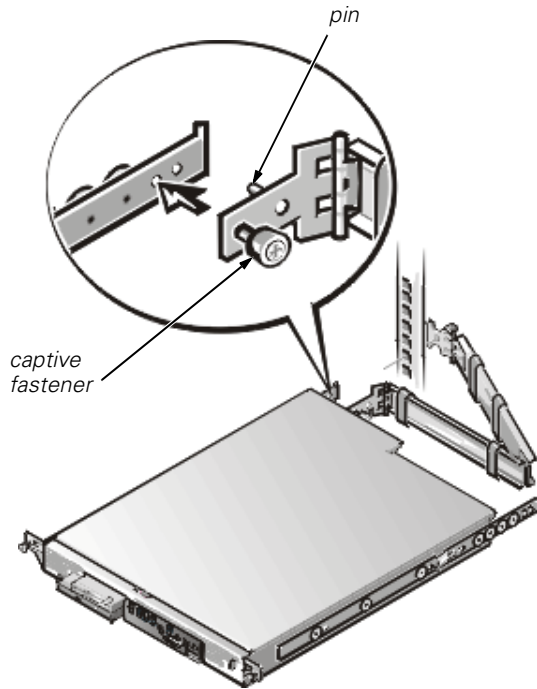

Figure 1-20. Installing the Cable-Management Arm
1. Facing the back of the rack cabinet, locate the threaded hole on the back of the slide assembly and secure the end of the cable-management arm (the end having a bracket and captive thumbscrew) to the right side vertical rail (see Figure 1-20).
3. Secure the cable-management arm to the inner rail with the captive thumbscrew (see Figure 1-20).